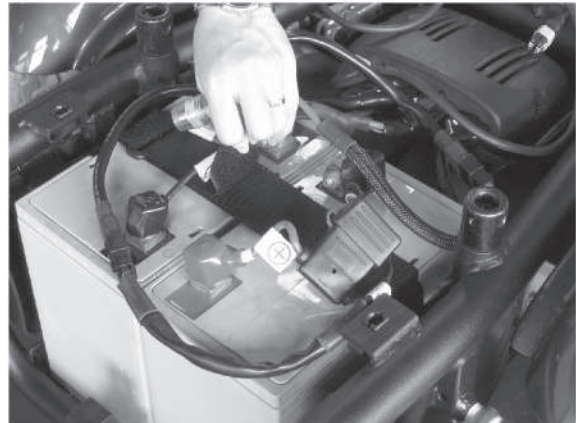

Fig E4
(3) Take apart the velcro. (Fig E4)